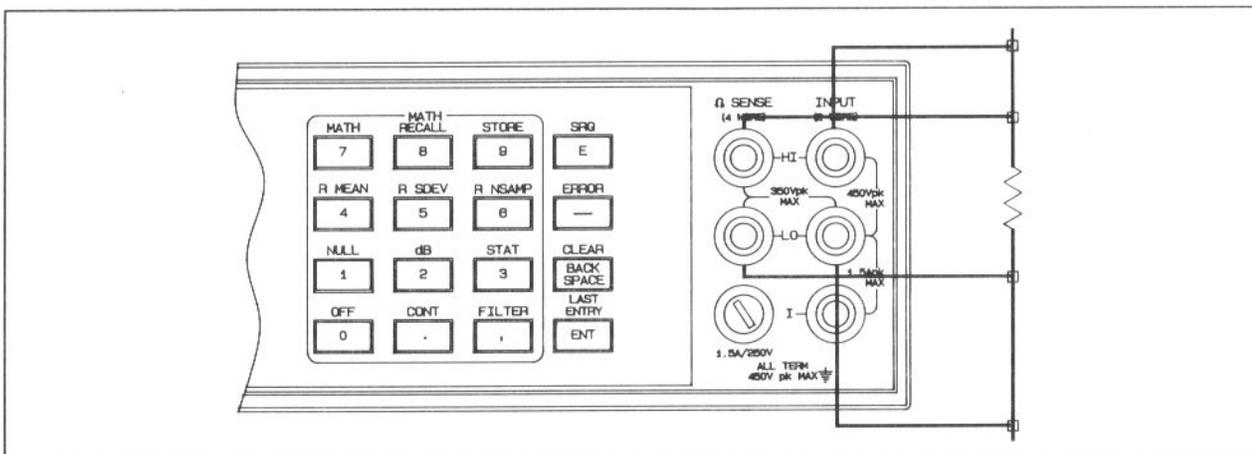

Figure 4-7. 4-Wire Ohms Gain Performance Test Connections
2. Connect the appropriate Resistance Standard to the HP 3457A front panel input terminals as shown in Figure 4-7.